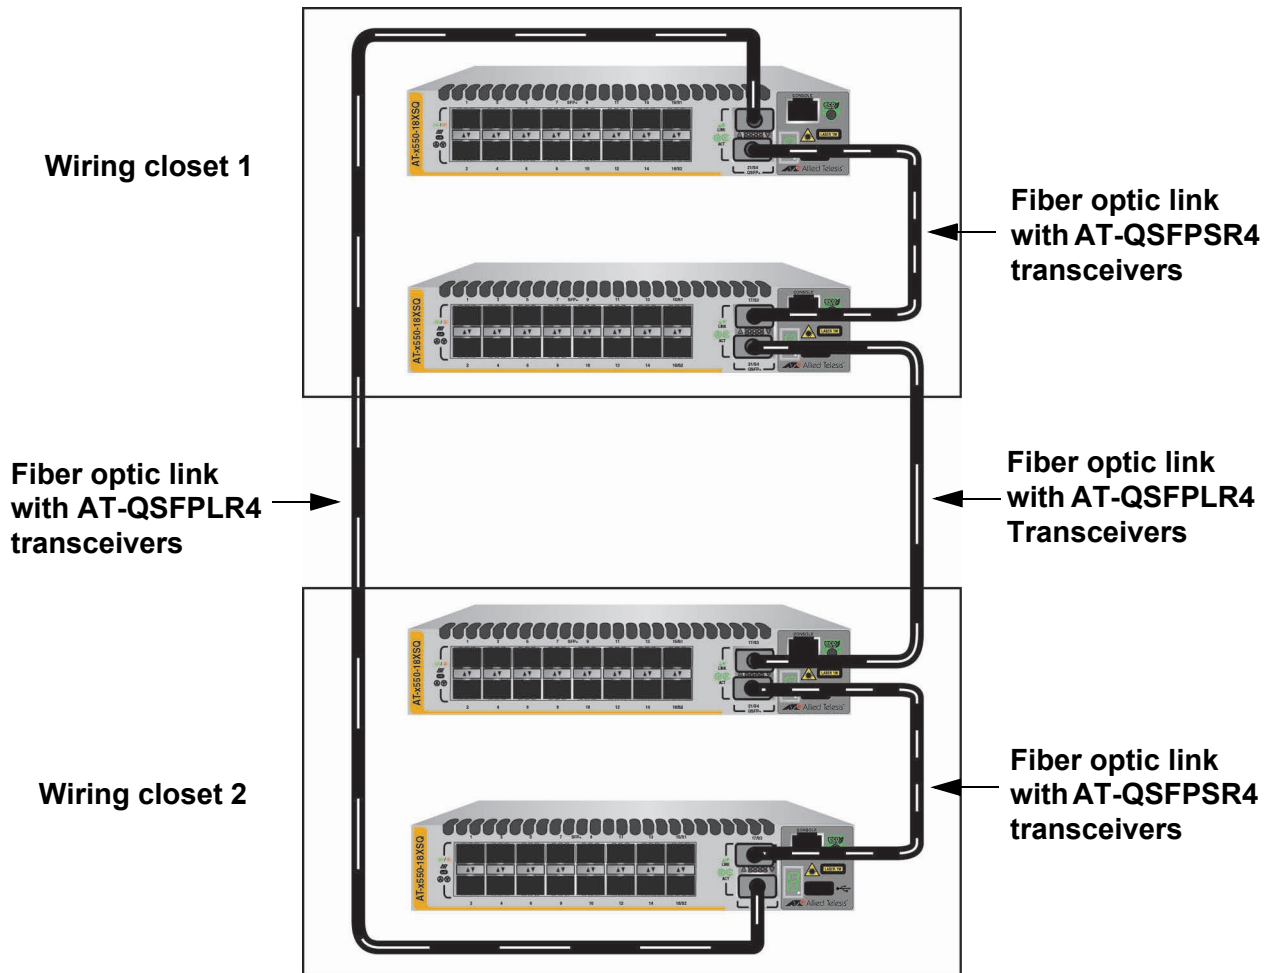

Figure 18. Example of a 40Gbps Trunk with Short and Long Distance Fiber Optic Transceivers
- 40Gbps trunks can also have both AT-QSFPSR4 and AT-QSFPLR4 fiber optic transceivers. Refer to Figure 18.